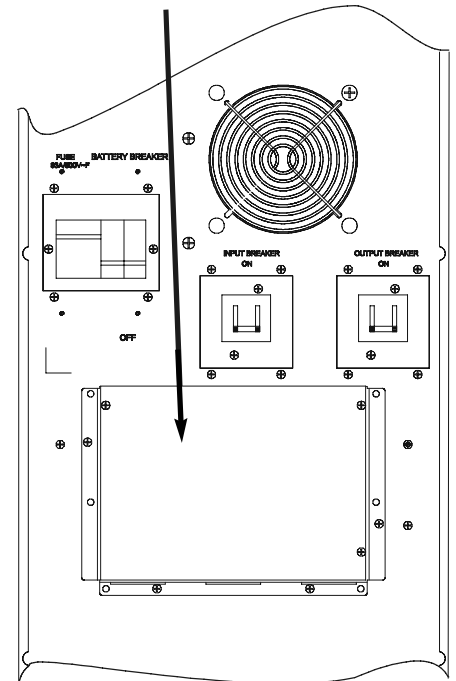
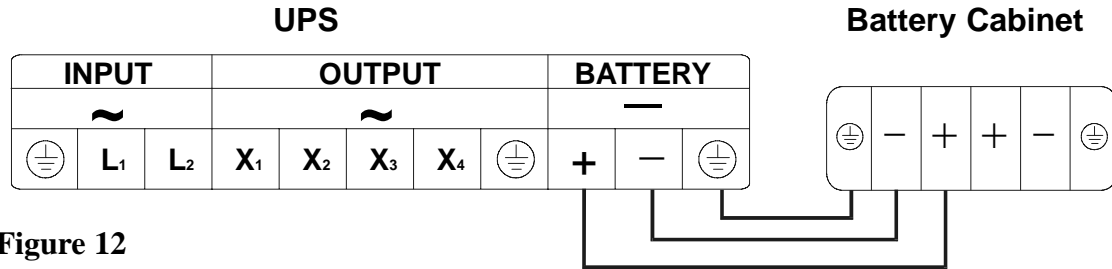

Figure 11
Figure 12
1. To connect the external battery cabinet to the 10K UPS, remove the UPS conductor box cover (if it has not already been removed). See Figure 11. The terminals will be labeled as shown in Figure 12 on the next page.
5. At the UPS, connect the ground wire to the ground (earth) terminal near the DC terminals as shown in Figure 12. Connect the positive (+) cable to the + UPS DC terminal, and the negative (-) cable to the - UPS DC terminal.
6. See Figure 12. At the battery cabinet, route the cables through the bottom of the conductor box. Then, connect the ground wire to the ground (earth) terminal on the battery cabinet. Connect the positive (+) cable to the + battery cabinet terminal, and the negative (-) cable to the - battery cabinet DC terminal. Reattach the cover over the terminal strip.